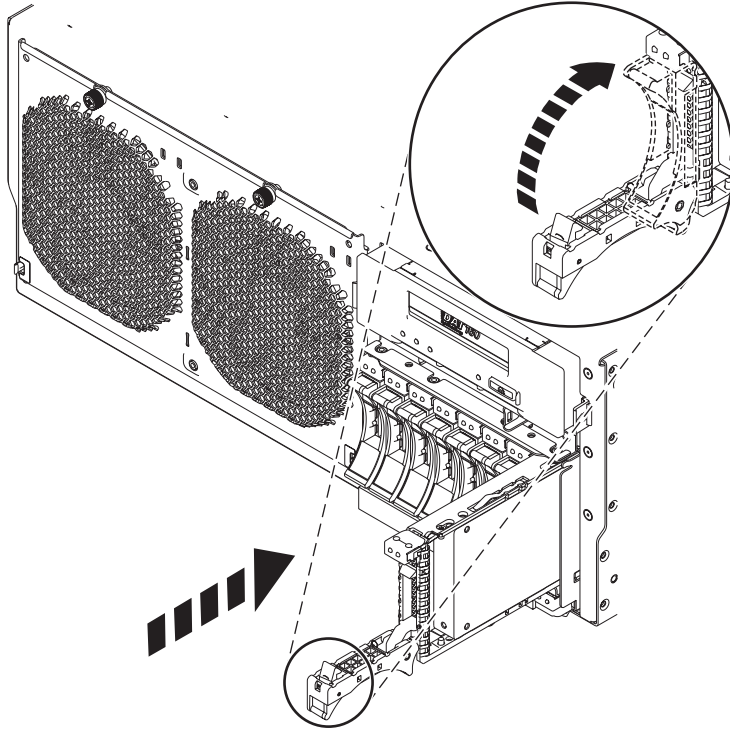

Figure 16. Installing the disk drive in the system
5. Slide the drive all the way into the system or expansion unit, and push the drive handle (A) in until it locks, as shown in Figure 16 on page 29.